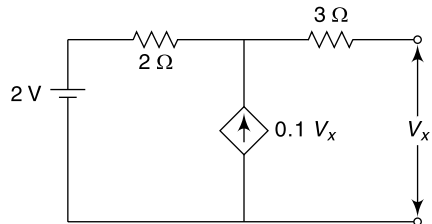

Fig. 15.2
18. Thevenin voltage in the circuit shown in Fig. 15.2 is